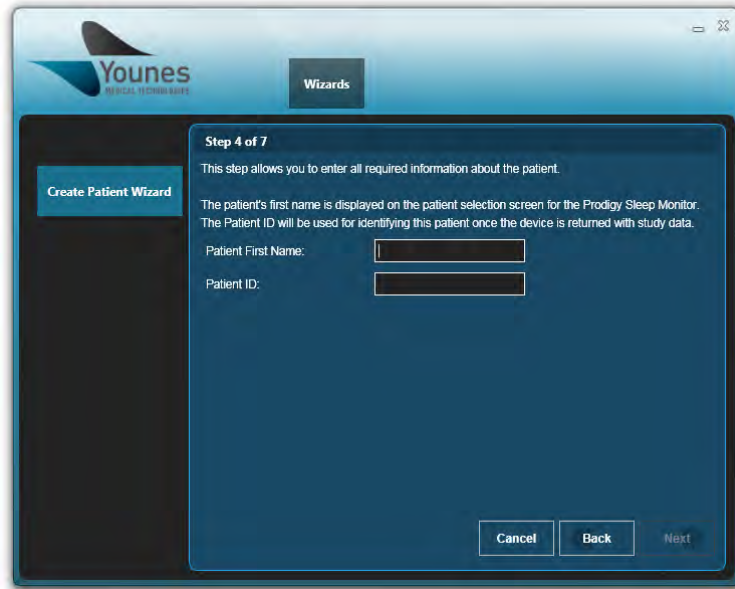

Figure 124 – Windows PC Prodigy Application Patient Name and ID Entry Screen (Create Patient Wizard)
12. Click anywhere in the black boxes shown in Figure 124 to enter the patient’s information. When the patient’s information has been entered, select “Next.”